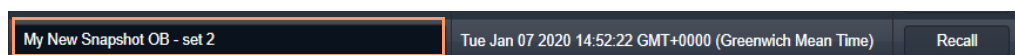

Figure 25: Enter New Snapshot Name
- 2 Enter a new name. (See Figure 25.)